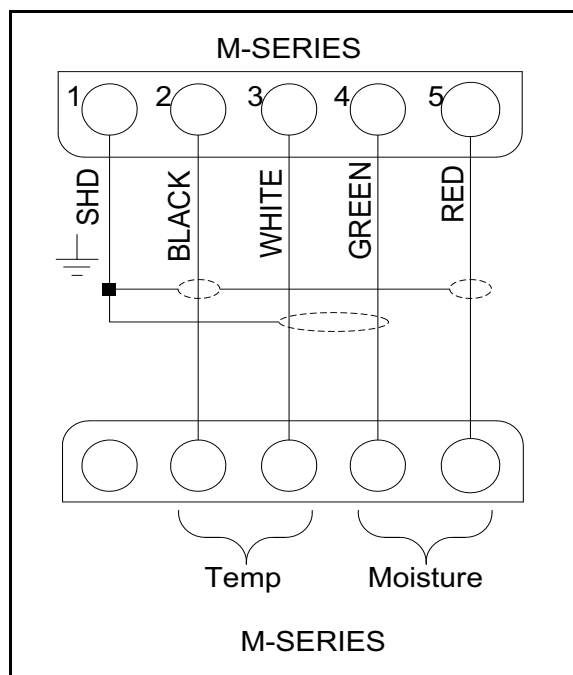
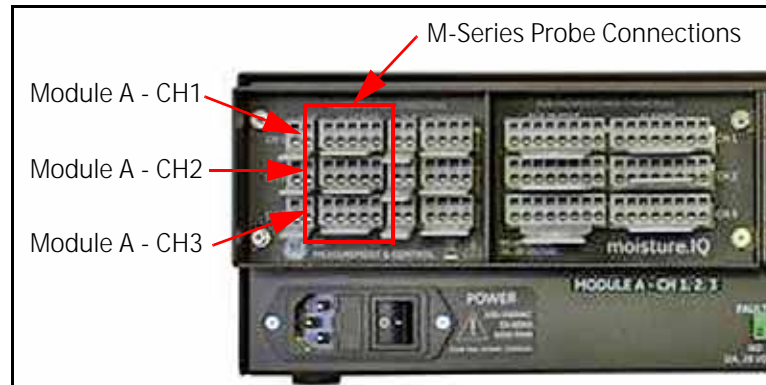

Figure 11: M-Series Probe Cable Wiring Diagram
Figure 12: M-Series Probe Connections
Before making the electrical connections, connect the cable to the probe by inserting the bayonet-type connector onto the probe and twisting the shell clockwise until it snaps into a locked position (approximately 1/8 of a turn). Wire the probe cable per the wiring diagram in *Figure 11* below. The M-Series terminal block on the back panel of the moisture.IQ (see *Figure 12 on page 17*) also notes the corresponding color from the probe cable.
**Note:** The label SHD in Figure 11 above corresponds to the SH label on the connector, and these terminals are used to terminate the cable shield.